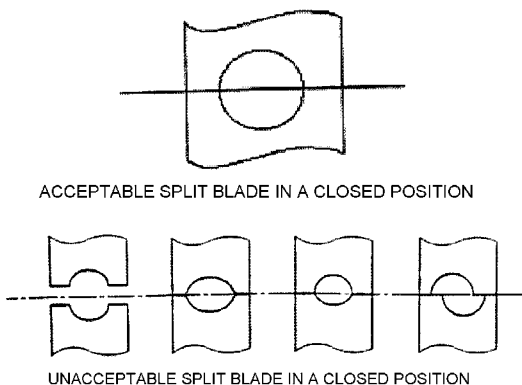

Figure 3. Strip Blade Cavity Inspection
6. **Tool And Blade Inspection.** Prior to wire stripping examine the tool and blade. Slowly squeeze the handle until blade open. The stripping jaws must begin to open after the blade is closed. Continue to squeeze the handle. The blade must open prior to the jaws releasing and closing. If tool does not operate correctly, replace the tool. With a light source behind and in the middle of the closed blade visually examined the blade cavity as shown in Figure 3. Inspect for imperfections or blade misalignment. The blade cavity shall be cylindrical and form a complete perimeter. A slight asymmetry of the two halves of the blade is acceptable if the blade does not damage the conductor when stripped. Asymmetrical shapes that do not form complete perimeters or cylinders are not acceptable. Realign blade and repeat inspection. If problem persist replace blade and repeat inspection. If problem still persist replace tool.